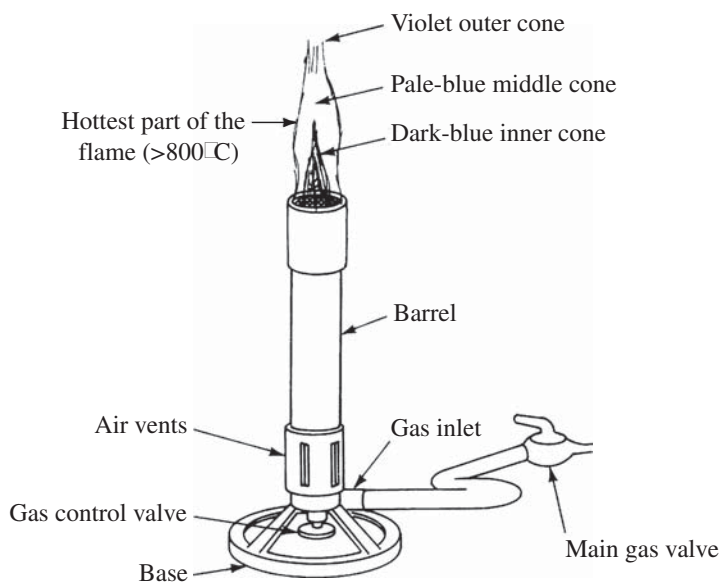

Figure 1.1
Tirrill or Bunsen burners provide a ready source of heat in the chemistry laboratory. In general, because chemical reactions proceed faster at elevated temperatures, the use of heat enables the experimenter to accomplish many experiments more quickly than would be possible at room temperature. The burner illustrated in Figure 1.1 is typical of the burners used in most general chemistry laboratories.
1. Before connecting the Bunsen burner to the gas source, examine the burner and compare it to Figure 1.1. Be sure to locate the gas control valve and the air vents and see how they work.
3. Turn the main gas valve to the open position. Slowly open the gas control valve counterclockwise until you hear the hiss of gas. Quickly strike a match or use a gas striker to light the burner. With a lighted match, hold the flame to the top of the barrel. The gas should light. How would you describe the color of the flame (1)? Hold a Pyrex test tube in this flame. What do you observe (2)?
4. Carefully turn the gas control valve, first clockwise and then counterclockwise. What happens to the flame size (3)? (If the flame should go out, or if the flame did not light initially, shut off the main gas valve and start over, as described above.)
5. With the flame on, adjust the air vents by rotating the barrel (or sliding the ring). What happens to the flame as the air vents open (4)? Adjust the gas control valve and the air vents until you obtain a flame about 3 or 4 in. high, with an inner cone of blue (Figure 1.1). The tip of the pale-blue inner cone is the hottest part of the flame.